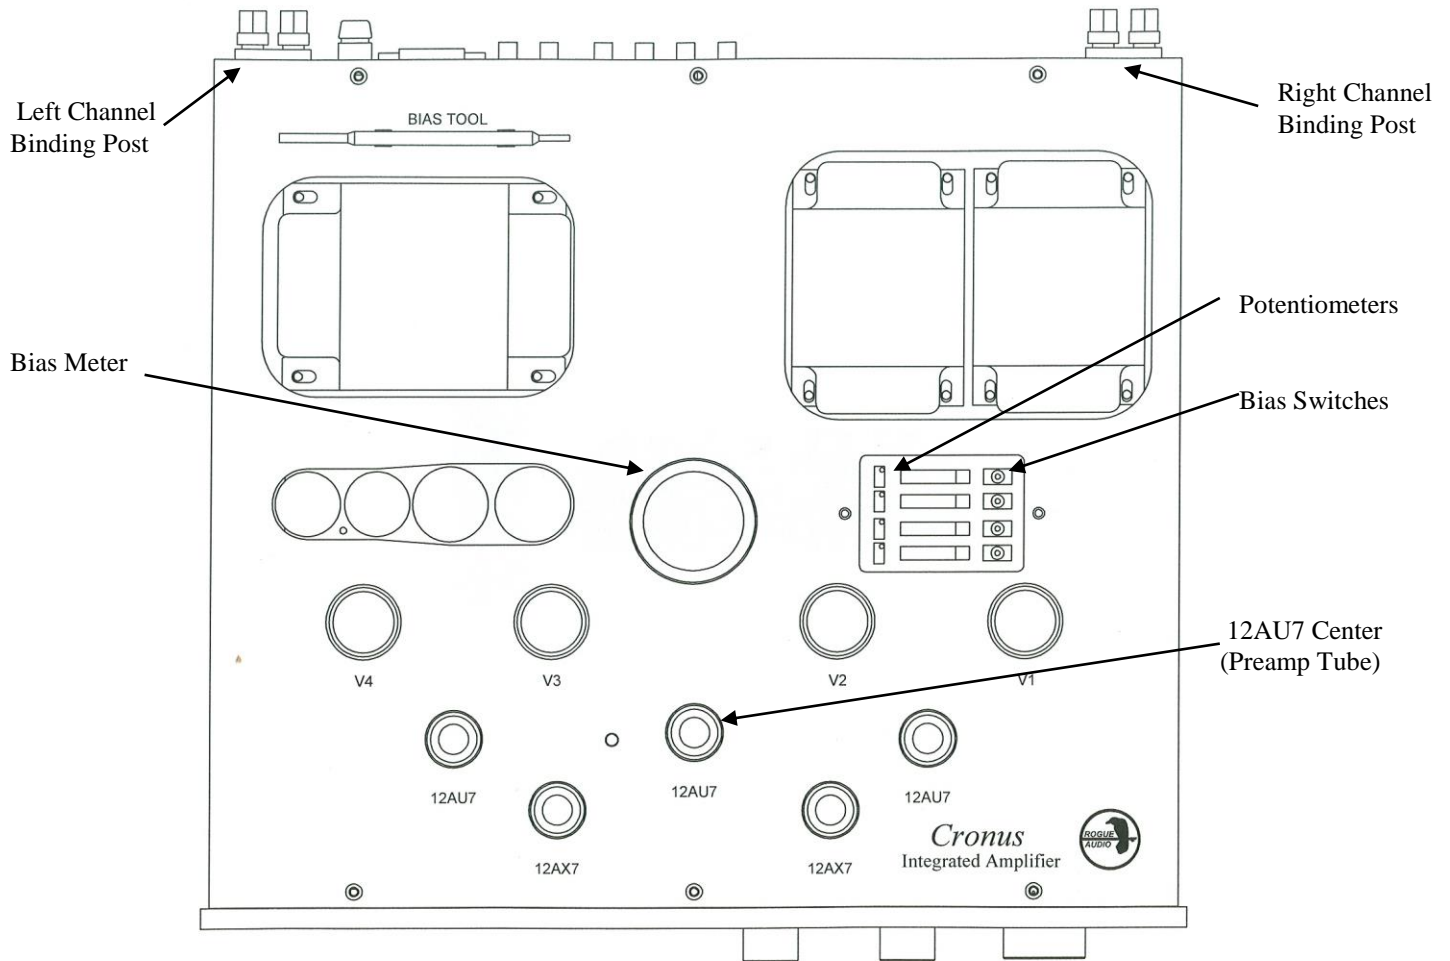

Figure 1. Tube and Deck Layout
3. Insert the tubes into the proper locations. Refer to Fig. 1 The output tubes will be marked per the figure. (ie V1,V2, etc.). The small signal tubes have been installed at the factory.